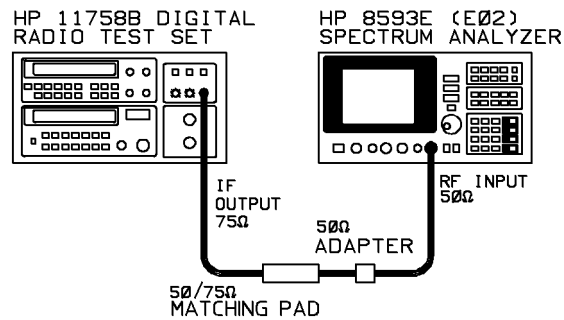

Figure 2-6. 3 Tone Source Verification Check Setup
1. Connect the equipment as shown in Figure 2-6.